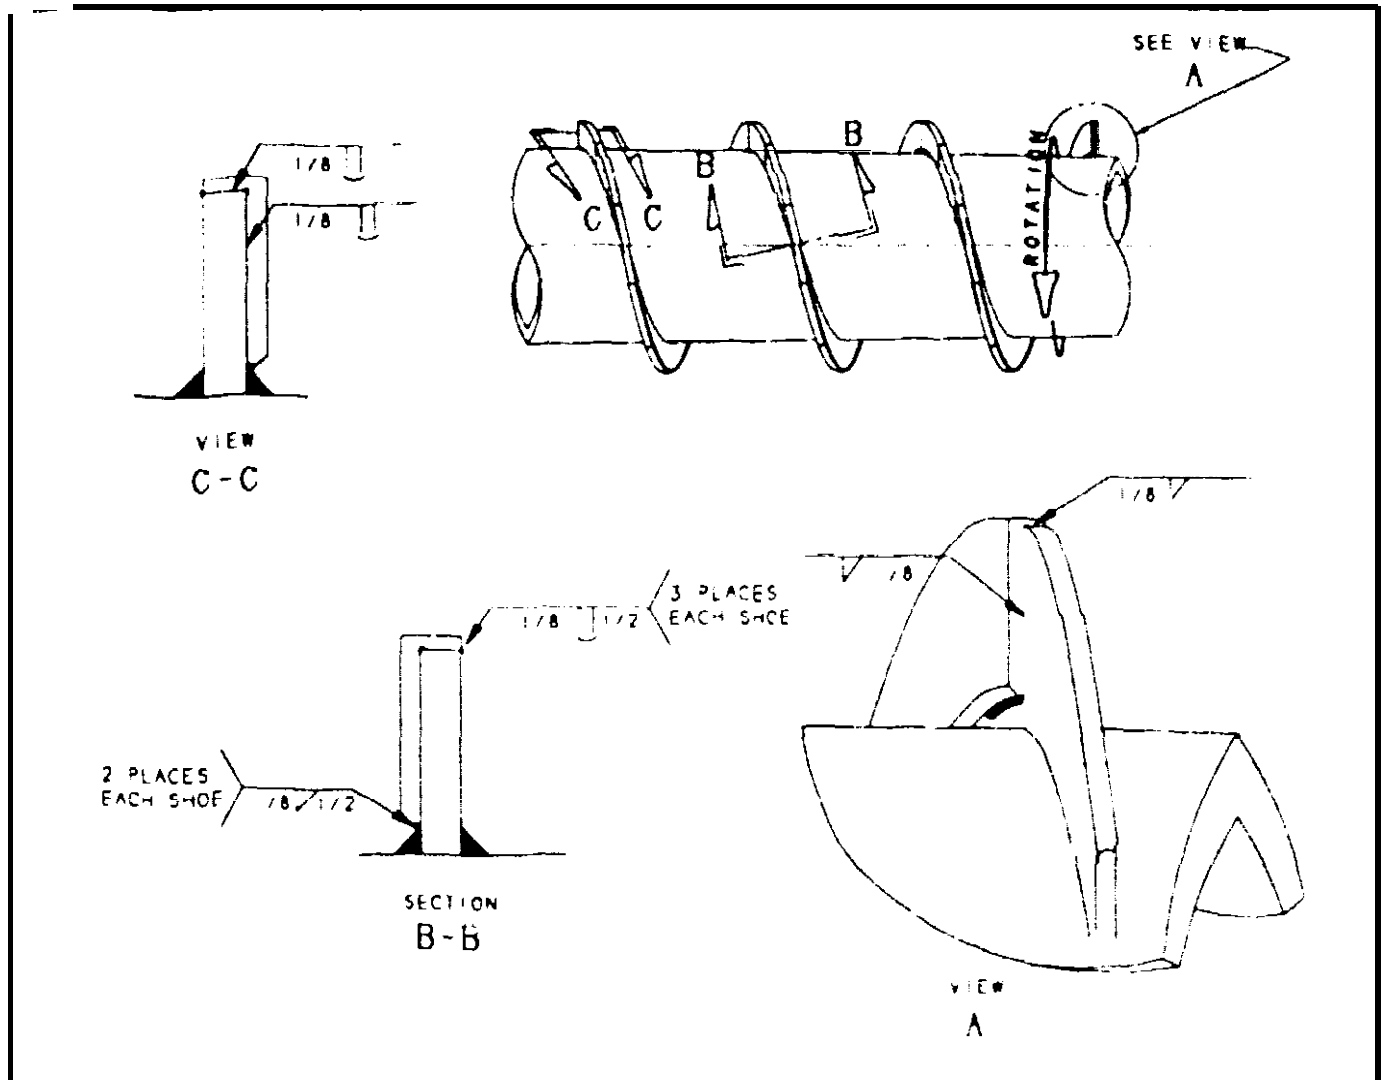

Figure 4.2-1
The press shaft is subject to wear **from** abrasion. Such **wear** is usually noticeable only near the discharge **end** of the shaft, due to the high **pressure** on the material in that ngion. As the shaft fighting wears, its outer diameter **becomes** smaller. As a result, the clearance **increases** between the fighting **and** the inner surface of the cage **screen**. Near the discharge end of the shaft, a hardened facing **strip reduces** the rate of wear of the fighting. The facing strip consists **of** a series of helical segments **called shoes** that **are welded** to the base fighting. The **hardened** shoe covers both the outer edge and the face of **the** base fighting. See **Figure 4.2-1**.
To weld new 17-4PH wear shoes to the base flighting, use a SMAW welder, with  $\frac{1}{8}$ -inch 30SL electrode. Part temperature should be above 70°F. No additional preheat is required. Weld at 100 ~ 200 Amps, keeping heat input low. Use the procedure below and Figure 4.2-1.
1. Begin at the discharge end of the shaft. Position the new wear shoe on the base flighting as shown in Figure 4.2-1.
2. Tack-weld each new facing shoe in position on the base flighting as shown in Figure 4.2-1.